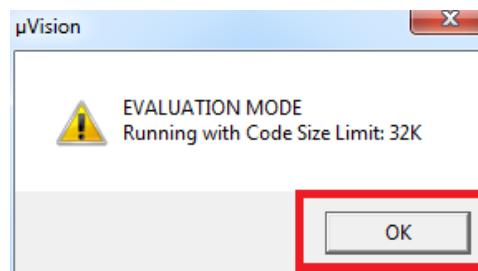

Figure 1.7: Keil IDE: Evaluation Mode Code Size Warning Dialog Box
4. Click OK when you are prompt with the code size limit of 32K in evaluation mode warning dialogue box (see Figure 1.7).
- Click OK when you are prompt with the code size limit of 32K in evaluation mode warning dialogue box (see Figure 1.7).